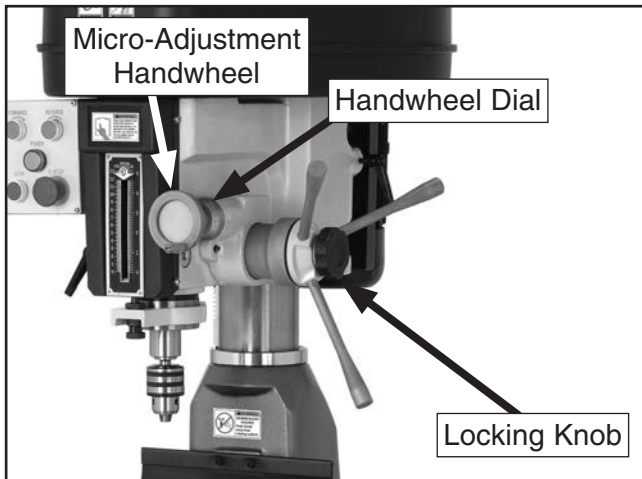

Figure 34. Micro-adjustment handwheel.
1. Tighten the locking knob located on the center of the hub for the downfeed levers (**Figure 34**). This transfers control from the downfeed levers to the micro-adjustment handwheel.